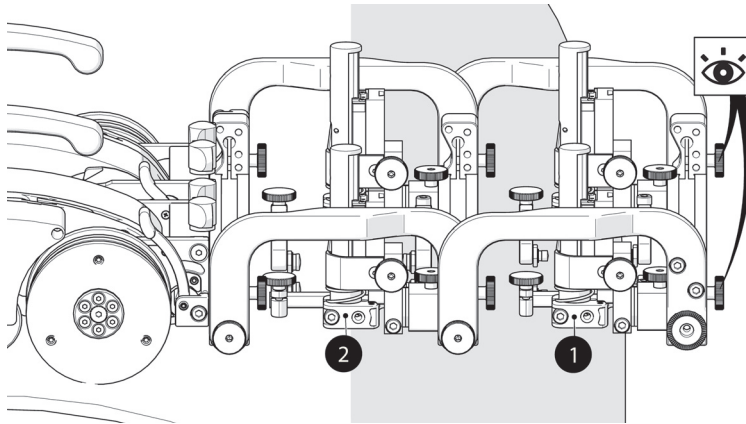

Figure 2-106 Position primary and secondary probe holders
2. Affix the probe holders, with attached wedges, to the probe holder frame. Place the secondary probe holder at the front of the frame (1) and place the primary probe holders at the rear (2) (see Figure 2-106 on page 128).